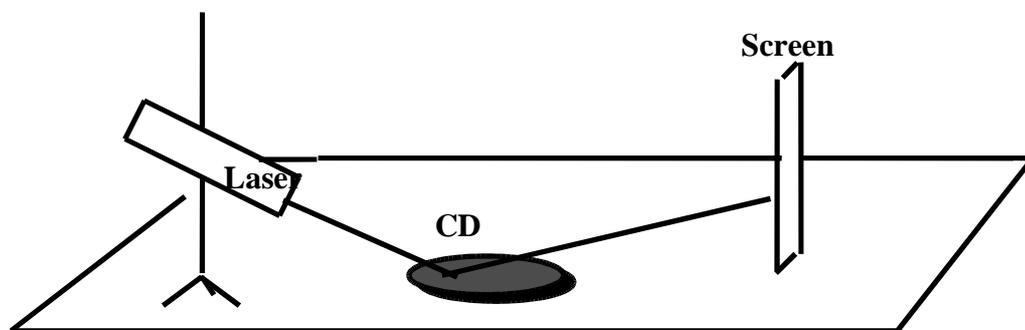

Figure 2
8. Remove the mirror. Place the CD, marked side down, onto the table. We will call this arrangement "setup 1." Separate the laser head and the graph paper so that x_l and x_g are each about 70 cm. (Again, use the mirror beam spot on the mirror as your origin.) Adjust y_l so that the laser head is about 5 cm above the tabletop. Measure y_l . Position the CD so that the laser beam strikes the CD on a spot closer to the laser than to the graph paper. See figure 2. The laser head, CD beam spot, CD center and graph paper beam spot should all lie in a single plane. Observe the pattern of laser light on the graph paper. Measure the vertical height y_g above the CD surface of the center of the spot pattern.